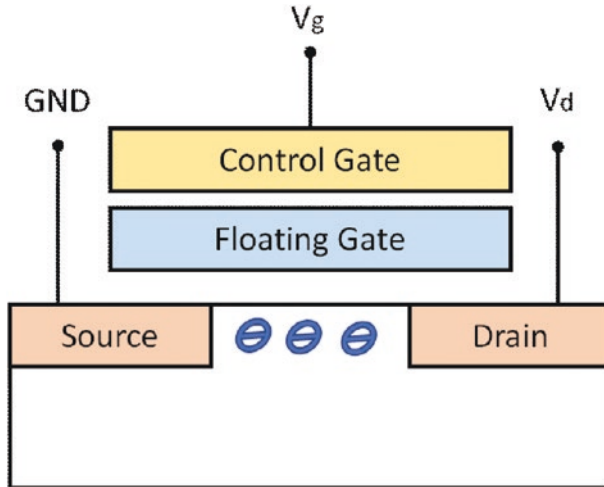

Figure 4-5. Floating gate NMOS transistor
1. **Typical Transistors:** In typical memory transistors, there are three connections: source, drain, and gate. The source is where electricity enters, the drain is where it exits, and the gate controls the flow. When the gate is closed, no current can flow, turning the transistor off and storing a zero (0). When the gate is open, power flows through, activating the transistor and storing a one (1).
3. **Flash Memory Transistors:** Flash memory transistors have an additional connection called a floating gate. This floating gate is placed on top of the main gate. When the gate is open, electricity seeps through the first gate and remains trapped between the first and second gates, even when the power is off. Refer to Figure 4-5.